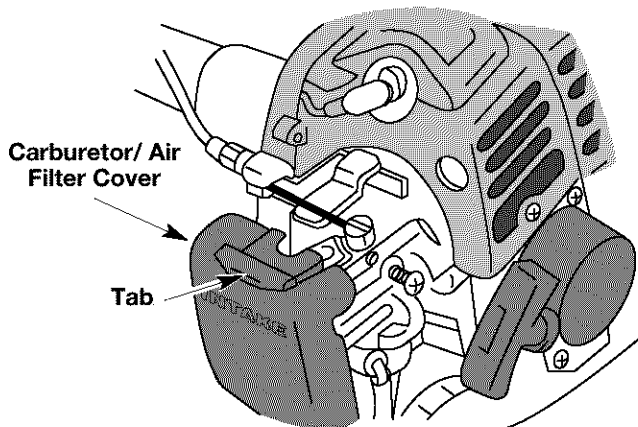
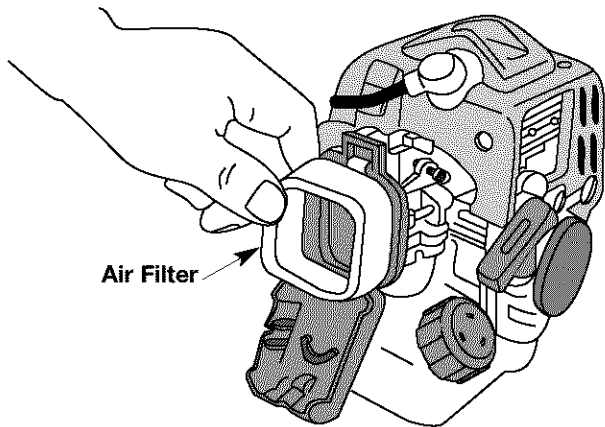

Fig. 18
Fig. 19
1. Remove the carburetor/air filter cover by pushing on the tab on top of the cover (Fig. 18).
2. Remove the air filter (Fig. 19).
6. Reinstall the filter (Fig. 19) and air filter cover (Fig. 18).